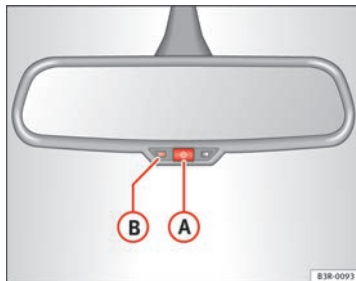

Fig. 103 Interior mirror with anti-dazzle setting: Indicator lamp and on/off switch
- Press button **A** ⇒ Fig. 103. Control lamp **B** goes off.
- Press button **A** ⇒ Fig. 103. Indicator lamp **B** turns on.